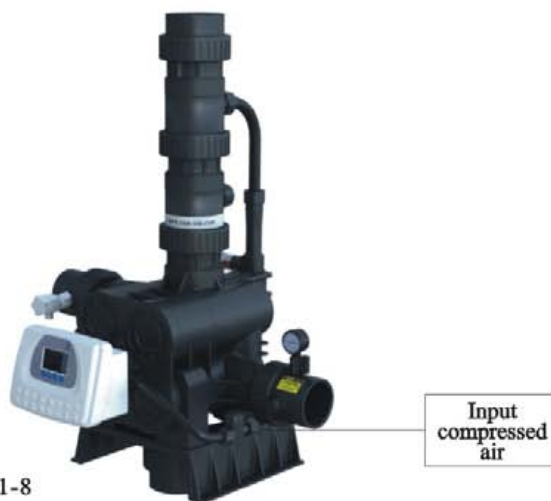

Figure 1-8
a. As figure 1-8 shows, install a voltage regulator air pump which has a function of oil removal in the system (The pressure is 0.6Mpa , and the pressure should be bigger than the inlet's), disassemble the connector between the contribution valve and the inlet pipeline, and make the pipeline connect with the air pump, then block the G1/2 female connector on inlet pipeline.